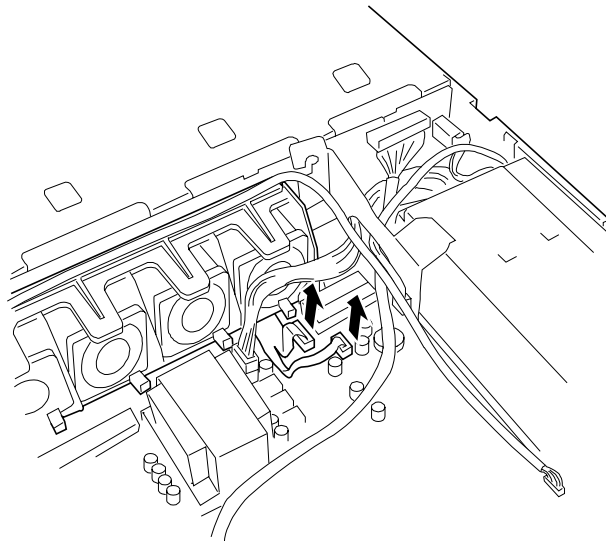

Figure 4-36. Removing the Fan Cables
7. Disconnect the two fan cables from the system board. See Figure 4-36.